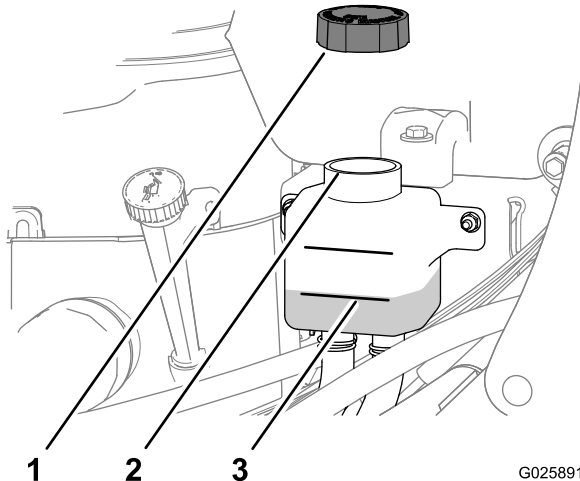

Figure 58
- Remove the cap from the expansion tank and check the hydraulic-oil level in the tank (Figure 58).
- If necessary, add the specified transmission oil until the oil level is at the Full Cold line of the expansion tank (Figure 58).